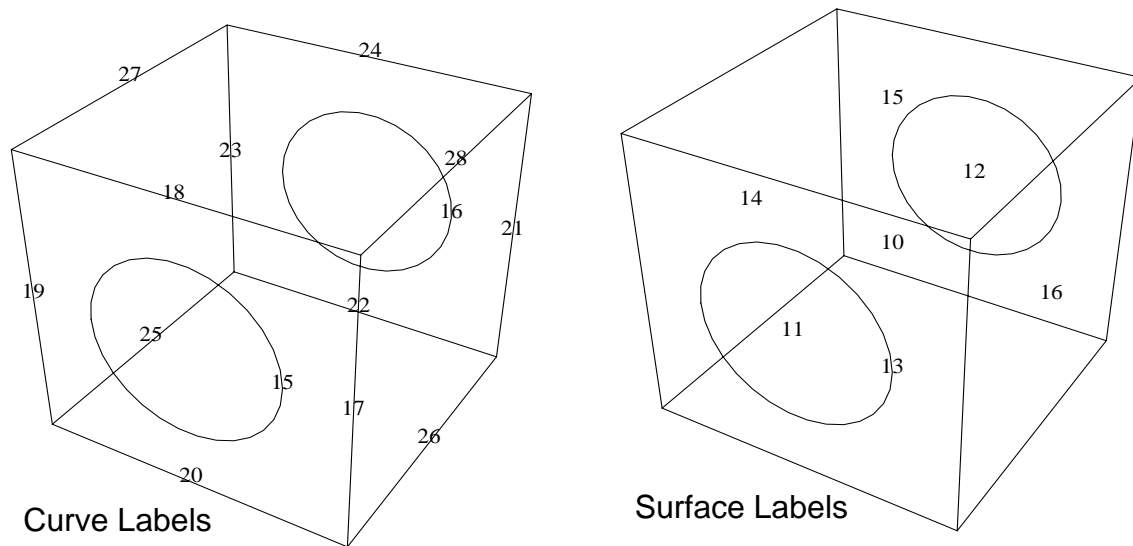

Figure 2-1: Geometry for Cube with Cylindrical Hole
The geometry for this tutorial is a block with a cylindrical hole in the center, shown in Figure 2-1. This figure also shows the curve and surface identification (ID) numbers, which are